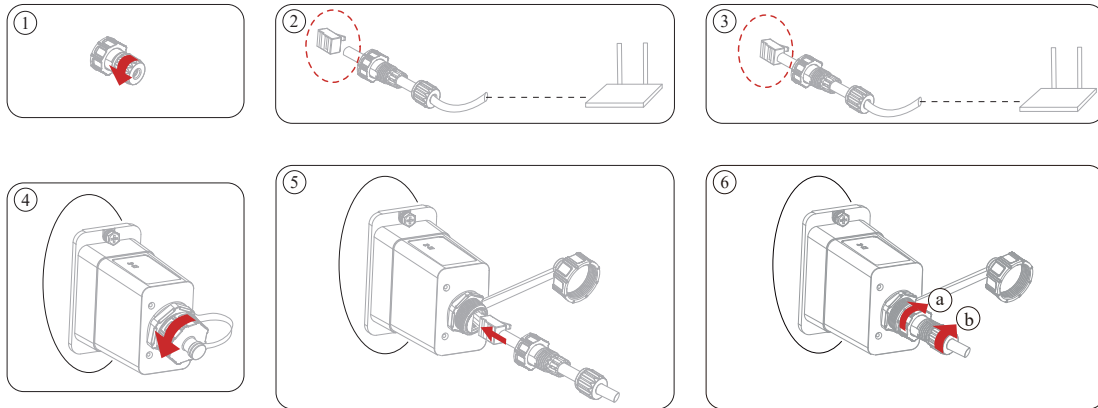

Figure 10d: Insert the network cable
- Take the waterproof connector out of the package and prepare the network cable with network. Insert the network cable. (Figure 10d)